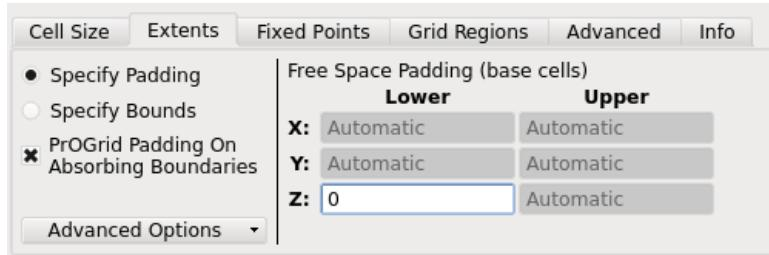

Figure 3.17: Defining the grid extents on the Grid Editor
- Remove all padding from the lower Z boundary by setting LOWER Z FREE SPACE PADDING (BASE CELLS) to "0" (Figure 3.17). This will cause the PEC boundary condition to lie exactly on the bottom surface of the Substrate as a ground plane.